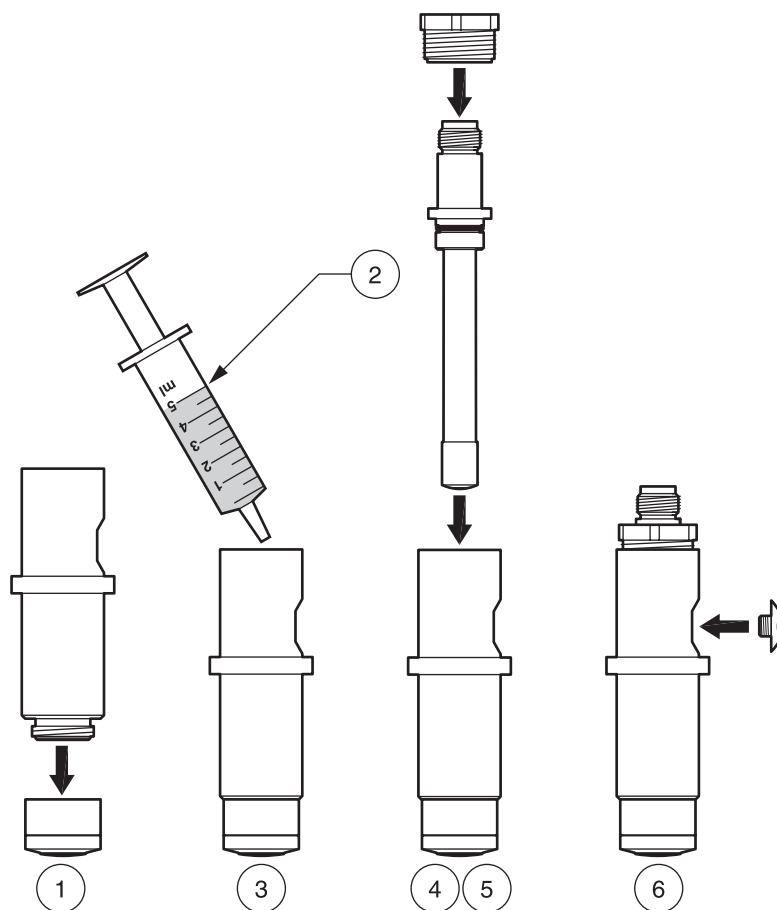
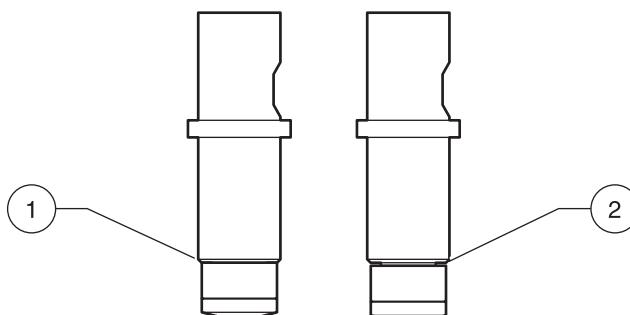

Figure 6 Probe Assembly
Figure 7 Tightening the Membrane
1. Screw the membrane cap onto the probe body (Figure 6 and Figure 7). Be careful not to touch or damage the membrane surface.